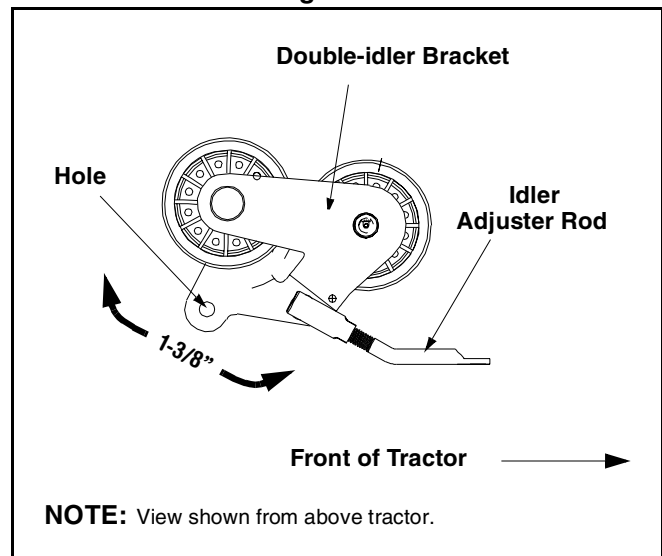

Figure 19
The drive pedal is properly adjusted when the hole found in the double-idler bracket has approximately 1-3/8" of travel with ten pounds of pressure applied to the drive pedal. See Figure 19.
- Locate the speed control assembly on the underside of the steering support bracket. See Figure 19.